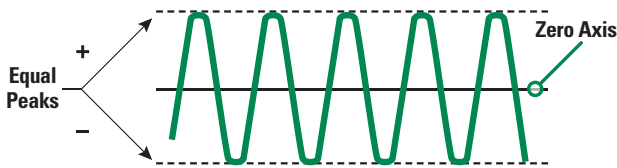
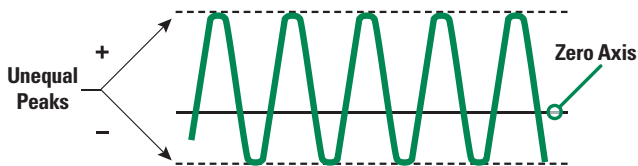

Figure 17 – Symmetrical Current
Figure 18 – Asymmetrical Current
**Symmetrical Current** – The terms “Symmetrical Current” and “Asymmetrical Current” describe an AC wave symmetry around the zero axis. The current is symmetrical when the peak currents above and below the zero axis are equal in value, as shown in Figure 17 (next page). If the peak currents are not equal, as shown in Figure 18, the current is considered asymmetrical. The degree of asymmetry during a fault is determined by the change in power factor (X/R) and the point in the voltage wave when the fault occurs. See definition of Power Factor. In general, lower short-circuit power factors increase the degree of asymmetry.